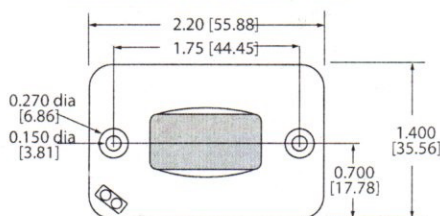

Figure 2
2. Mount the meter with screws, double sided tape, or Velcro. If using screws, use the meter to make a template for drilling holes with 7/64" drill (see Figure 2 for mechanical dimensions). DO NOT DRILL into GAS TANKS or ENGINE CRANKCASE: If in doubt, contact your dealer.